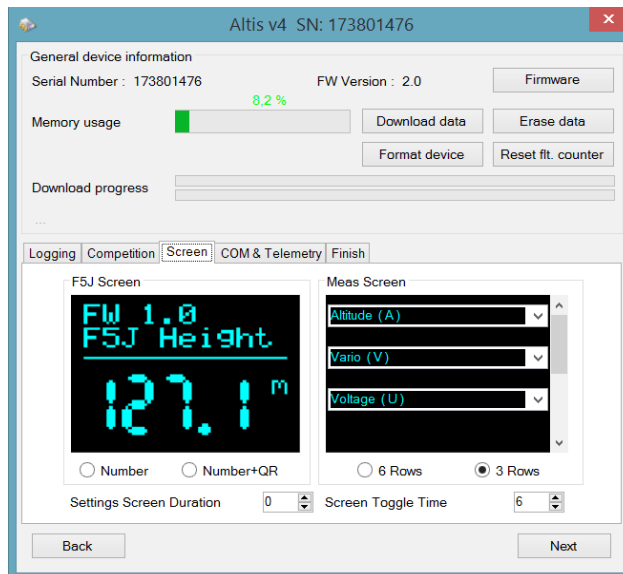

*Fig 10: Competition Settings*
**Competition settings** (Fig 10) – There are several pre-programmed standard competitions. You can simply choose the one you want from the Competition Type list. This choice sets the proper values of all necessary parameters.